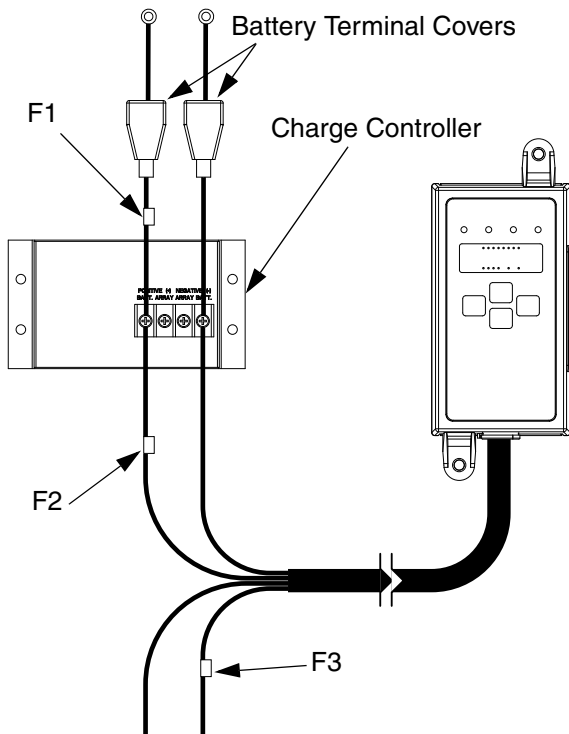

FIG. 5 Control Box Connections (internal)
1. Ensure all three fuses (F1, F2, & F3) are removed. See FIG. 5.
3. Carefully lift the battery up and into the control box (2).
3. Install the battery terminal covers, included on the system wiring, over the battery terminals. See FIG. 5.
4. Reinstall all three fuses (F1, F2, and F3). See FIG. 5.